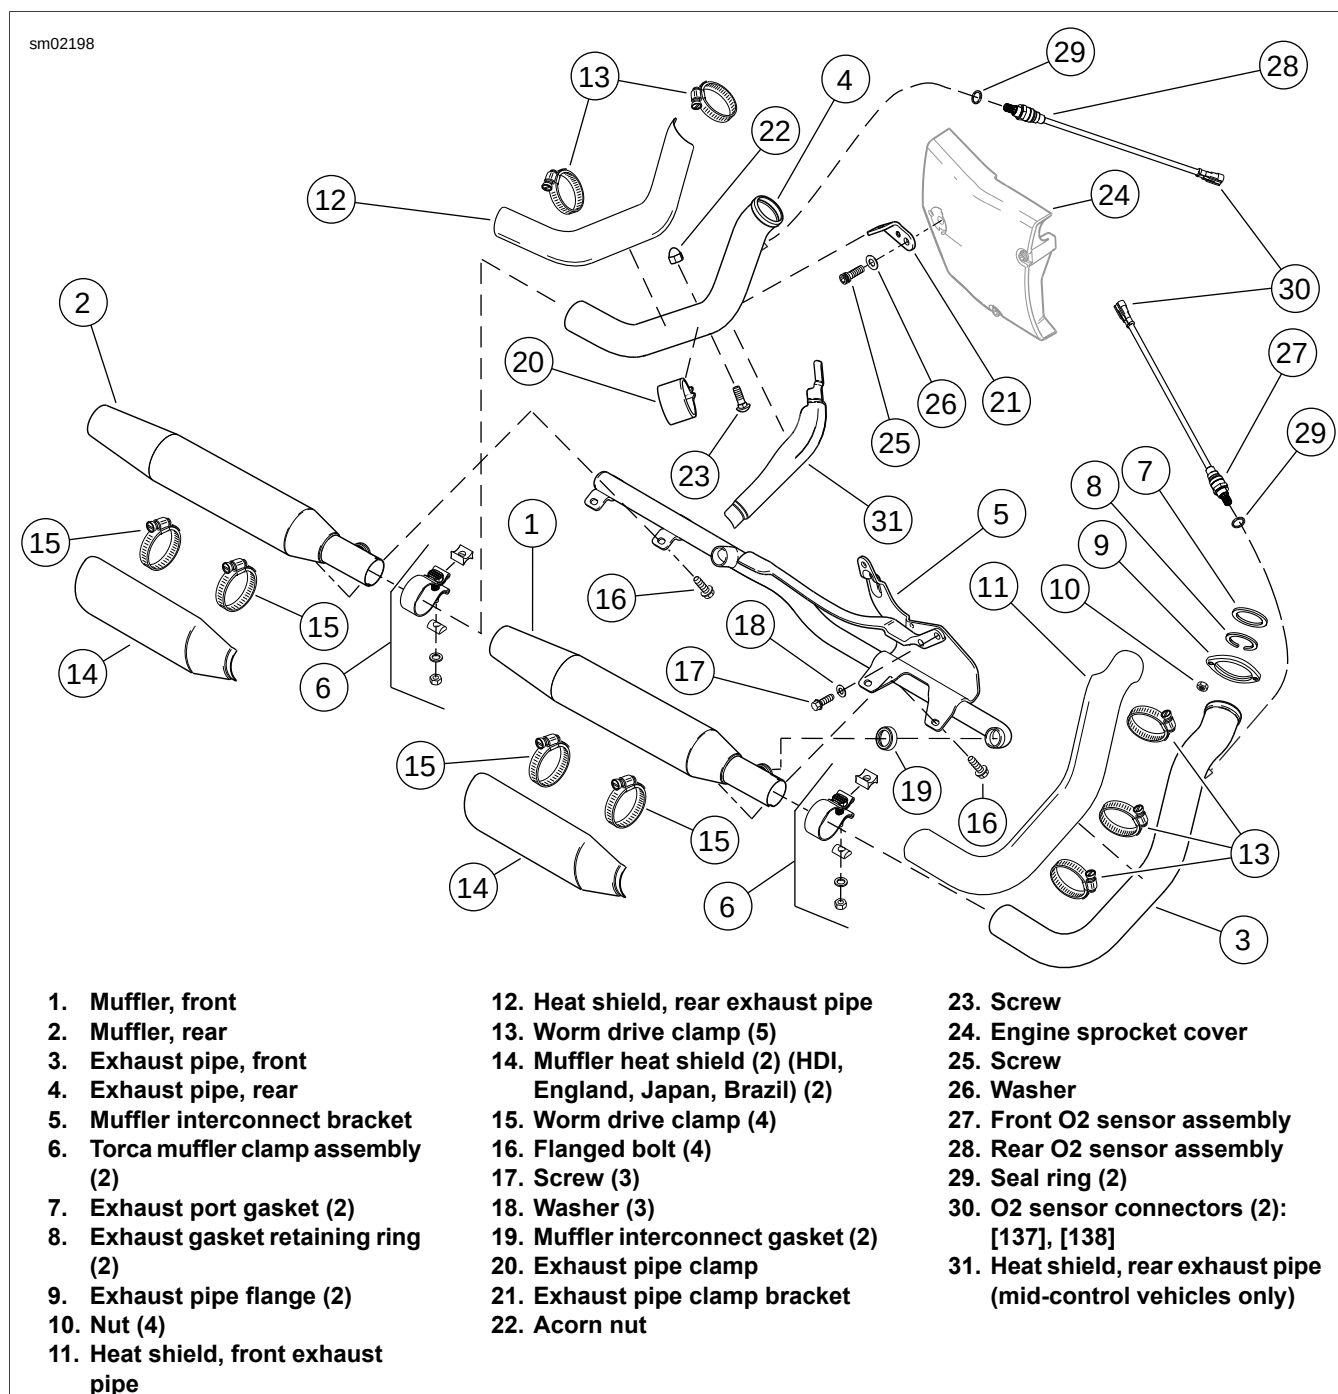

Figure 4-65. Exhaust System, All XL Models
1. See Figure 4-65. Remove heat shields:
- a. **Models with Mid Controls:** Remove worm drive clamps (13) from heat shield (12) completely. Remove bottom heat shield.
- b. **All Models:** Open worm drive clamps (13) and remove exhaust pipe heat shields (11, 12).
- c. **HDI, England, Asia Pacific, India, Japan, Brazil Models:** Open worm drive clamps (15) and remove muffler heat shields (14).
2. Unplug O2 sensor connectors (30). Front connector [138] is mounted on left front frame downtube. Rear connector [137] is attached to the ECM caddy on the left.
3. Remove nuts (10) from front and rear cylinder head exhaust studs.
4. Remove flanged bolts (16) securing front and rear mufflers (1, 2) to muffler interconnect bracket (5).
5. Loosen Torca muffler clamp assemblies (6) on front and rear mufflers. Remove mufflers. Discard muffler interconnect gaskets (19).
3. See Figure 4-65. Remove three screws (17) and washers (18) securing muffler interconnect bracket (5) to engine crankcase. Remove muffler interconnect bracket.
- See Figure 4-65. Install muffler interconnect bracket (5) to engine case with three screws (17) and washers (18). Tighten to 30-33 ft-lbs (40.7-44.7 Nm).
- See Figure 4-65. If the front and rear O2 sensor assemblies (27, 28) are being reused, install **new** seal rings (29) onto each sensor. Apply a thin coat of ANTI-SEIZE LUBRICANT to the sensor threads.
3. Place exhaust pipe flange (9), exhaust gasket retaining ring (8) and **new** exhaust port gasket (7) over front end of each exhaust pipe (3, 4). Position flange so that inside counterbore faces cylinder head exhaust port.
4. Position front ends of front and rear exhaust pipes into front and rear cylinder heads, respectively. Position holes in flanges over mounting studs and loosely install nuts (10). Do not tighten nuts at this time.
5. Install exhaust pipe clamp (20) on rear exhaust pipe (4) with square hole facing down. Assemble exhaust pipe clamp to exhaust pipe clamp bracket (21) with screw (23) and acorn nut (22). Verify that the bracket fits between ends of clamp. Do not tighten at this time.
6. Install **new** muffler interconnect gaskets (19) in interconnect mating holes in mufflers (1, 2).
7. Place **new** Torca clamp assemblies (6) over slotted end of each muffler. Install each muffler onto the end of its respective exhaust pipe.
8. Rotate both mufflers until their mounting bosses line up with holes in muffler interconnect bracket. Carefully mate each muffler with exhaust port in interconnect bracket. Loosely install flanged bolts (16). Do not tighten at this time.